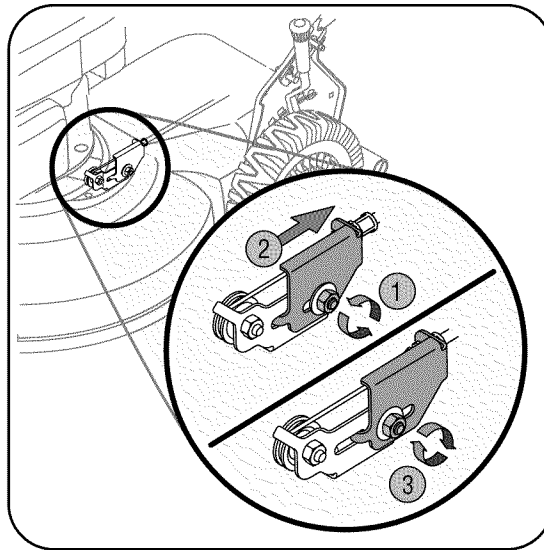

Figure 13
The adjustable cable bracket is located on the left side of the mower beside the engine. See Figure 13. Start engine and place shift lever in the sixth speed position. Stop engine and disconnect spark plug wire and ground it against engine.
1. Loosen hex nut which secures the adjustable cable bracket. See Figure 13.